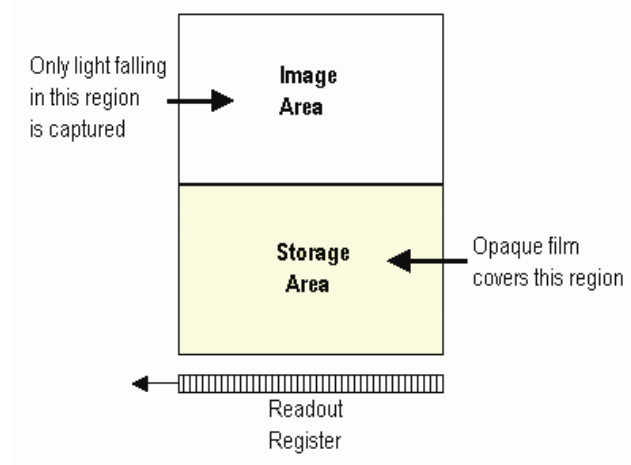

Figure 7: Frame Transfer CCD
- Firstly, a FT CCD contains 2 areas, of approximately equal size (see figure 7 below).